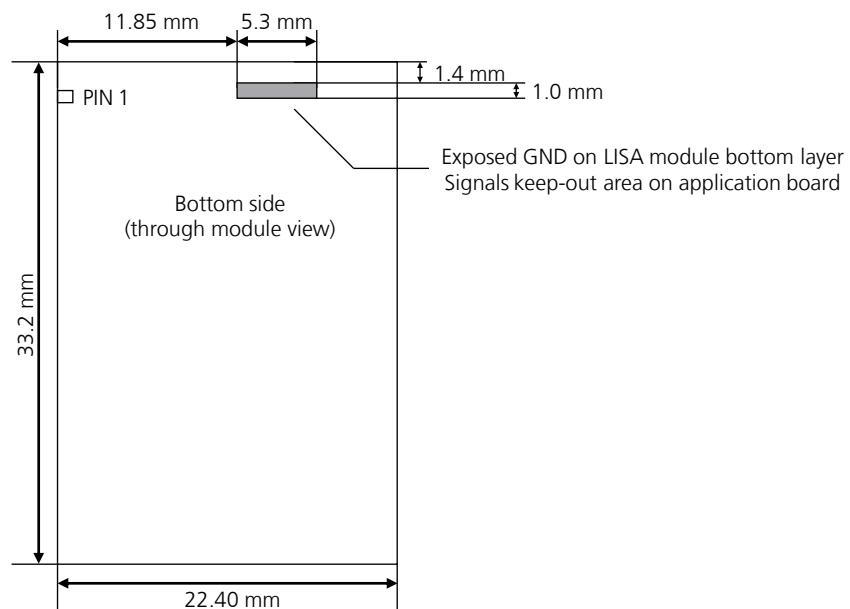

Figure 53: Signals keep-out area on the top layer of the application board, below LISA-U1/LISA-H1 series modules
The bottom layer of LISA-U1/LISA-H1 series modules shows an unprotected copper area for GND described in Figure 53.
- ☞ Consider "No-routing" area for the LISA-U1/LISA-H1 series modules footprint as follows: signals keep-out area on the top layer of the application board, below LISA-U1/LISA-H1 series modules, due to GND opening on module bottom layer (see Figure 53).